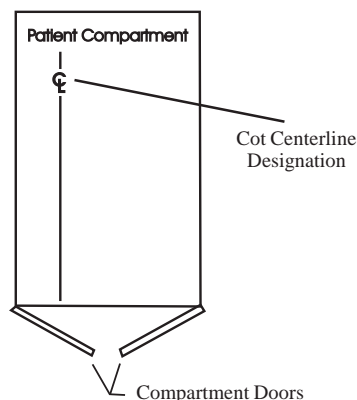

Figure 4 - Drawing the Cot Centerline
3. Starting at the rear compartment doors, draw a straight line between the marks made in Steps 1 and 2 (Figure 4). This is the cot Centerline.